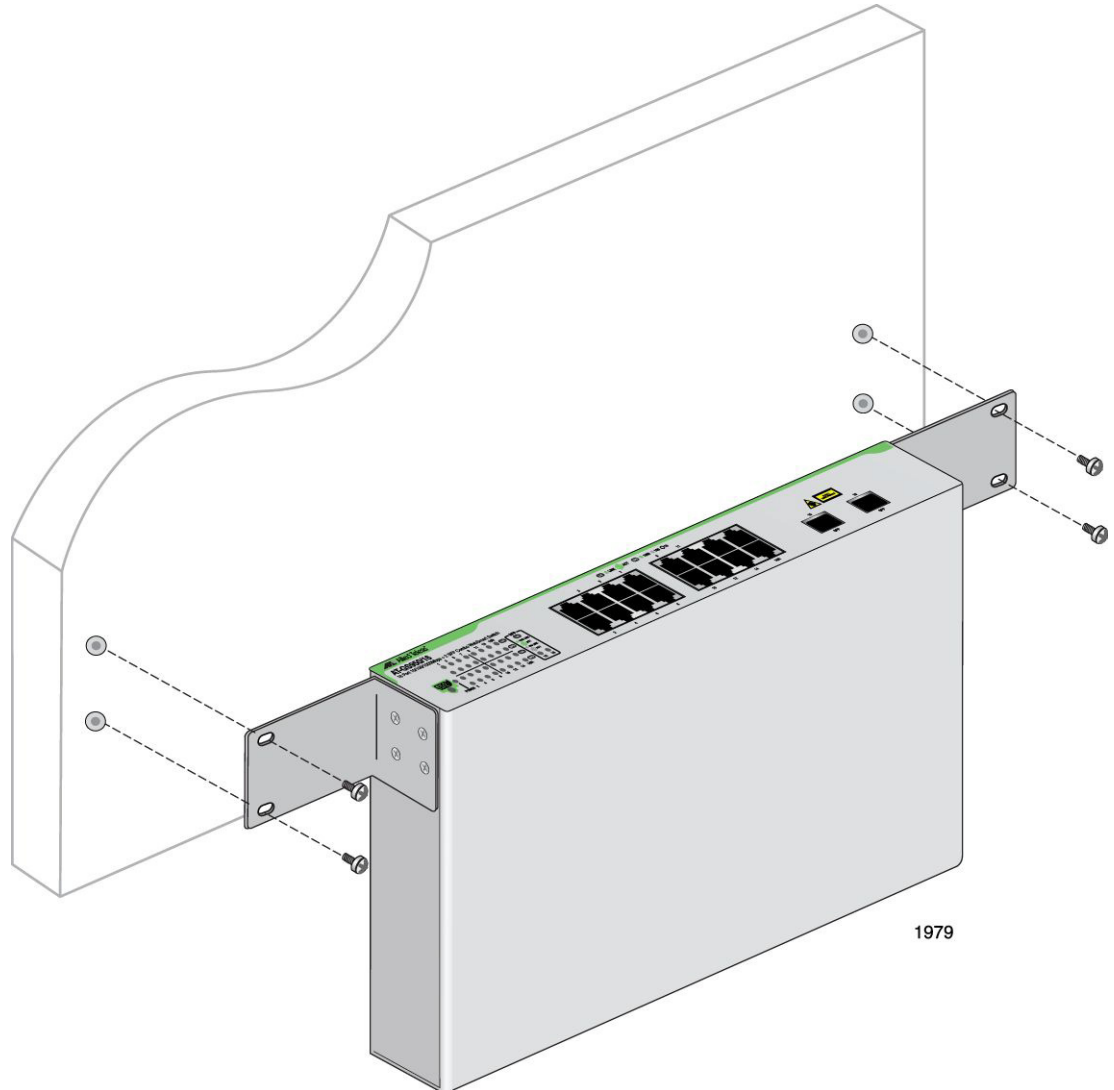

Figure 25. Securing the Switch to the Wall
6. While another person holds the switch at the wall location, secure it to the wall using the four wall mounting screws. See Figure 25.